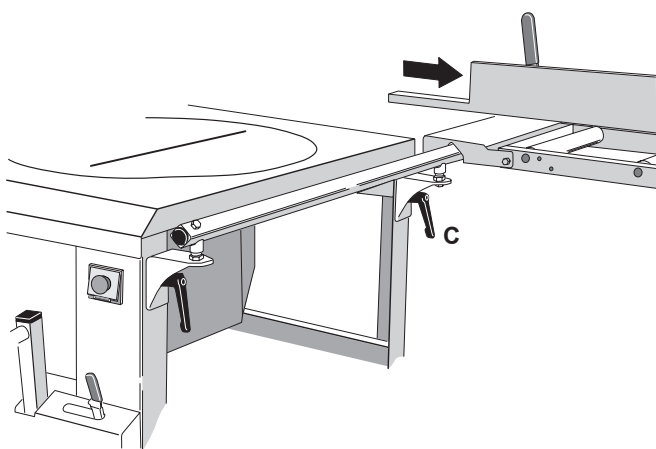

Fig. 4a
- Fit rip fence as illustrated in Fig. 4a/4b.